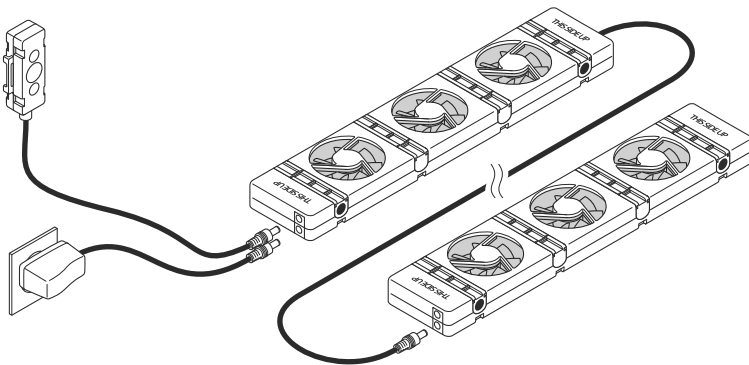

Fig. 4 - Connect additional SpeedComforts (A).
6. On long radiators, connect additional **SpeedComforts** (A) with the 30 cm **connecting cables** (F) (see fig. 4). Multiple **SpeedComforts** (A) (up to 20) can be connected to one **power adapter** (D). Additional **temperature sensors** (E) are not required. The Duoset and the Trioset include several **SpeedComforts**.